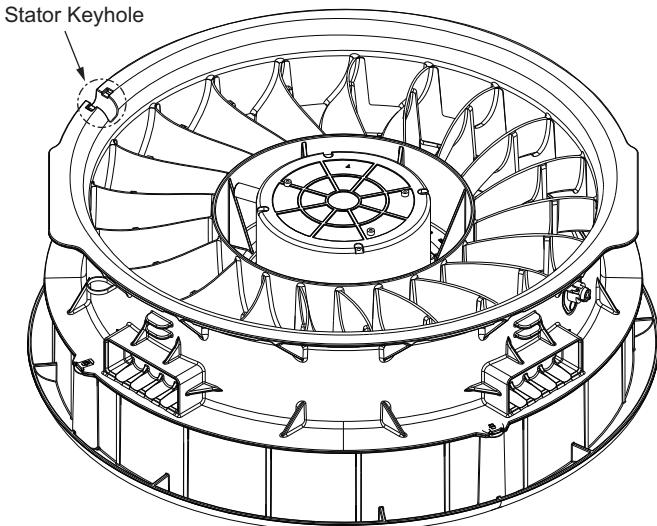

Fig. 46 – Stator Keyhole Location
3. Fit motor wire harness into keyhole feature on the side of the stator and pull wire harness out prior to fixing the motor to the stator. See Fig. 46.